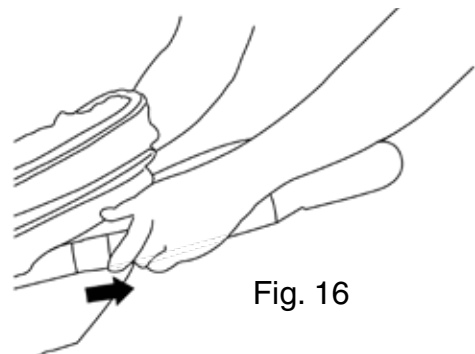

Fig. 16
- The stroller is folded by simultaneously pulling each trigger fold located on right and left handle above the canopy (Fig. 16). When the fold latches are released, the handle will begin to rotate and lower toward the floor.